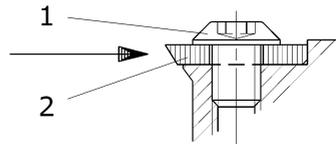

Fig. 1
(see Fig. 1 to 6)
2. Remove completely screw (1) with suitable key in order to be able to disassemble the knife (2).
4. Mount precisely into the knife seat the reversed- or new knife (see Fig. 1 to 6). Make sure that the stop edge of the knife leans onto the stop face of the knife seat.
5. Push the knife slightly against the stop face (see Fig. 1 to 6).